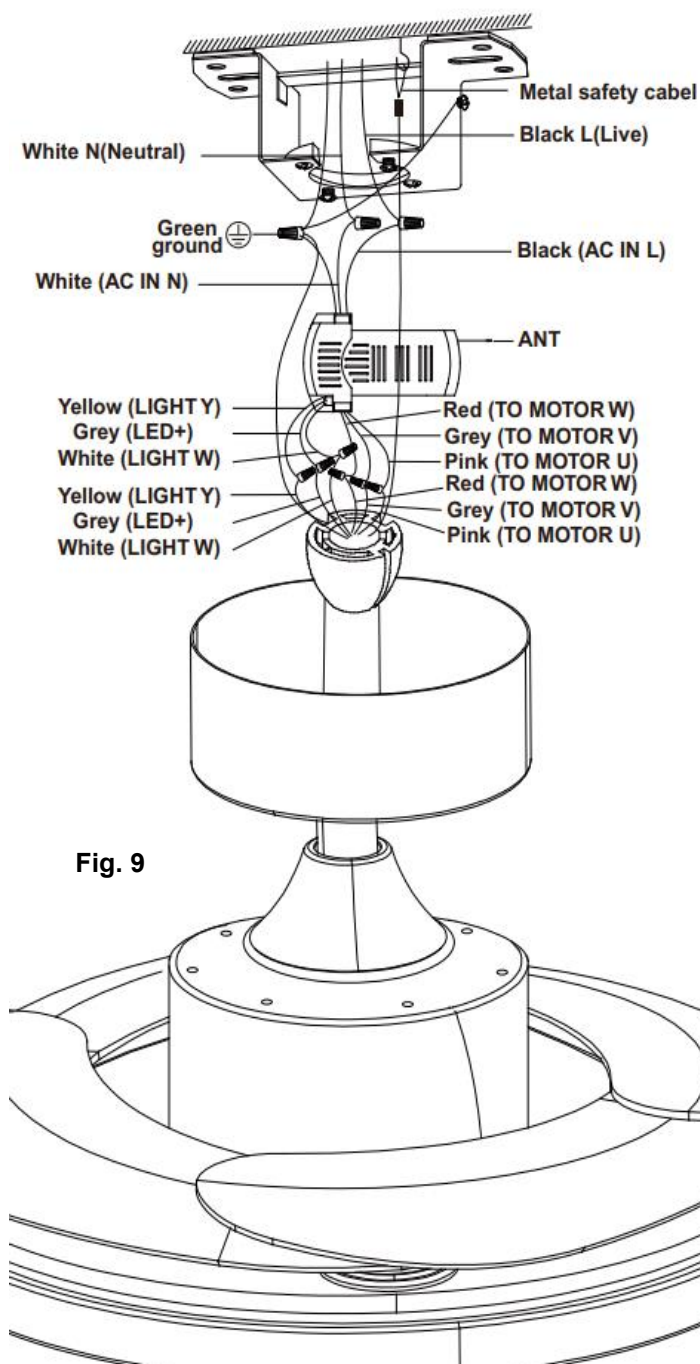

Fig. 9
1. Connect the household live supply wire (black) to receiver input wire (black, AC IN L) as shown in (Fig. 9)